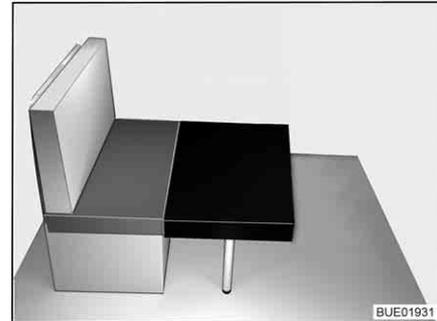

Fig. 32 Conversion (1)
- Place the small additional cushion onto the table in front of the seat cushion of the bench (refer to Fig. 32).